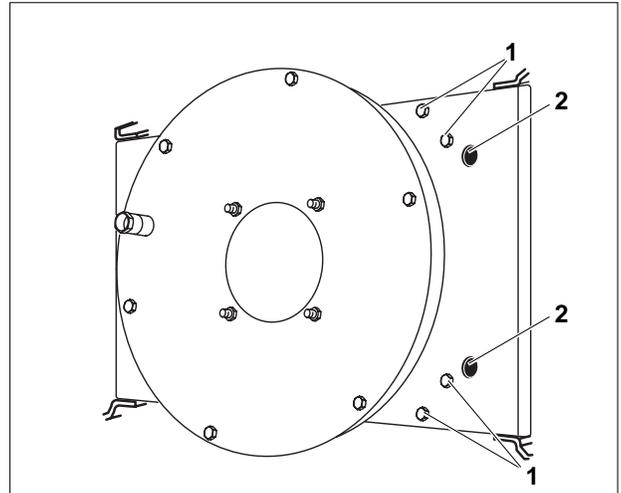
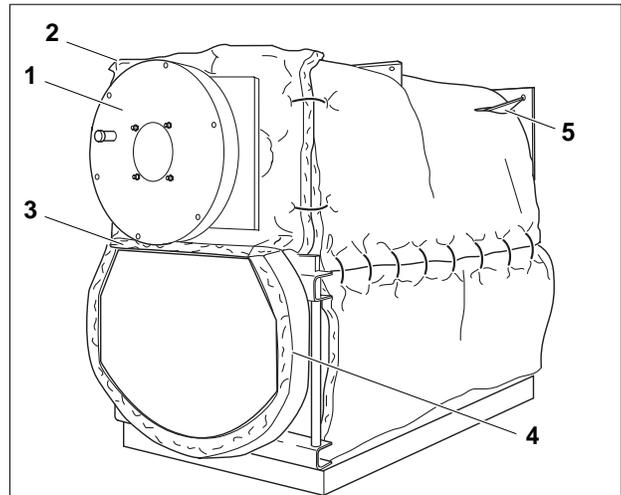
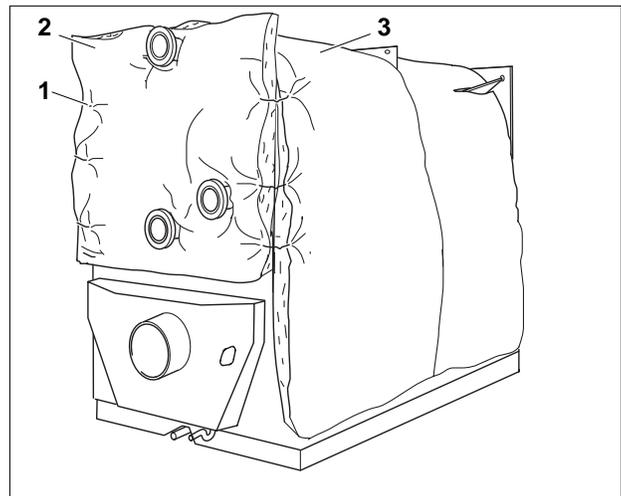

Fig. 6 Screws for opening the burner door
Fig. 7 Burner door insulation blanket
Fig. 8 Rear side insulation blanket
Note the cut-outs for the low water indicator and the cross bracket holder (Fig. 7, **Item. 1 + 5**)!
- Unscrew four hexagon bolts (Fig. 6, **Item. 1**) from the right side of the boiler door (Fig. 7, **Item. 1**) and four from the left side.
The recesses (Fig. 6, **Item. 2**) in the boiler door (2 on the left and 2 on the right side) have been provided for lifting with a crane or hoist, for example for the complete removal of the door.
- Open the burner door (Fig. 7, **Item. 1**)
- Place the insulation blanket with round cut-out (Fig. 7, **Item. 2**), with its wide edge facing upwards, on the left front of the boiler body (wide edge up) and secure with four clips (2 left, 2 right) on the surrounding thermal insulation.
- Position the thermal insulation strip (Fig. 7, **Item. 3**) laminated on the front of the reversing door.
- Position the thermal insulation strips (Fig. 7, **Item. 4**) for the reversing door from below around the side of the reversing door and secure with two clips.
- Locate the rear side thermal insulation (Fig. 8, **Item. 2**) in accordance with the cut-outs on the rear side of the boiler and secure with six clips (Fig. 8, **Item. 1**, 3 left and 3 right) on the surrounding thermal insulation (Fig. 8, **Item. 3**).
- Insert the insulation blanket from the burner door (Fig. 7, **Item. 2**) and the rear side (Fig. 8, **Item. 2**) into the upper edge and the front and rear cross bracket.